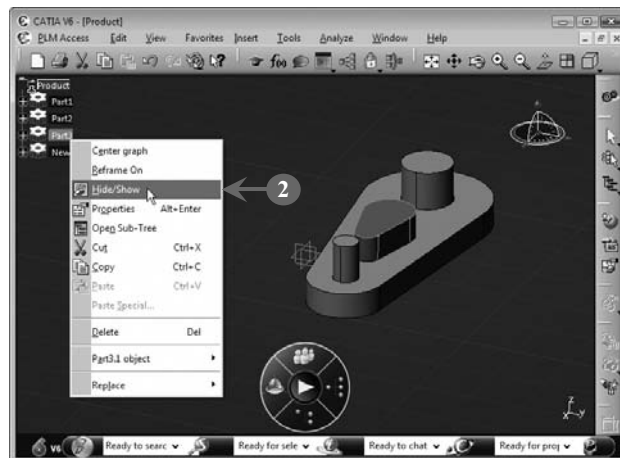

FIGURE 4.35
1. *Create* an assembly in the Assembly Design workbench (**Figure 4.35**).
2. *Right-click* the assembly component that you want to hide in the specification tree and *select* the **Hide/Show** option from the context menu, as shown in Figure 4.35: